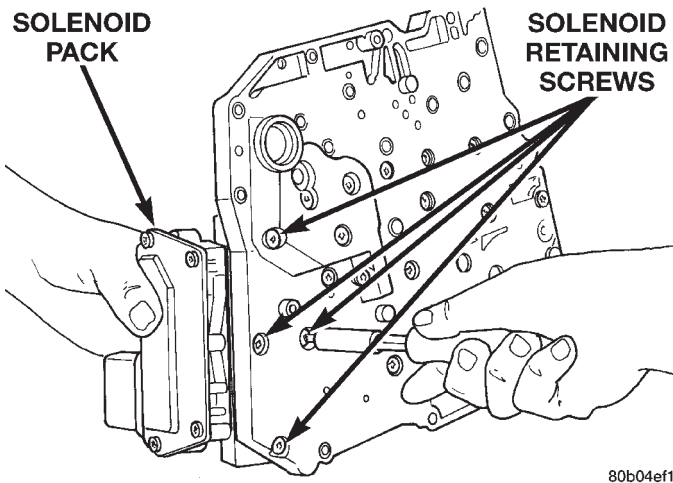

Fig. 61 Solenoid Pack Location
(2) Remove Transmission Range Sensor (TRS) and manual shift lever.
(3) Remove solenoid pack from valve body (Fig. 61).